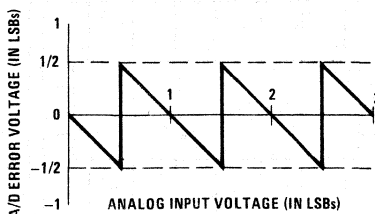

FIGURE 6. Error Plot of a Perfect A/D Showing Effects of Quantization Error
7.280 VDC. These voltage values represent the center values of a perfect A/D converter. The input voltage has to change by  $\pm 1/2$  LSB ( $\pm 20$  mV), the "quantization uncertainty" of an A/D, to obtain an output digital code change. The effects of this quantization error have to be accounted for in the interpretation of the test results. A plot of this natural error source is shown in *Figure 6* where, for clarity, both the analog input voltage and the error voltage are normalized to LSBs.